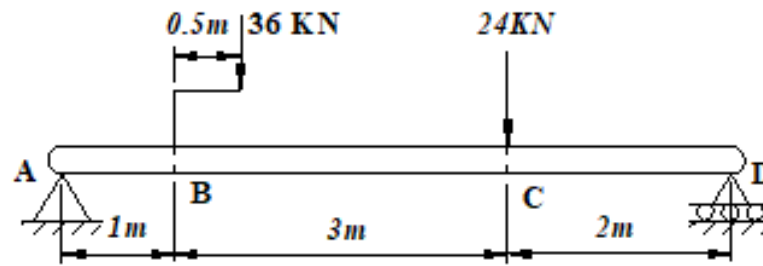

fig 5b
- b) For the beam shown in fig 5b, determine the location & value of maximum deflection taking flexural rigidity $EI=11 \times 10^4 \text{ KN-m}^2$. **16**